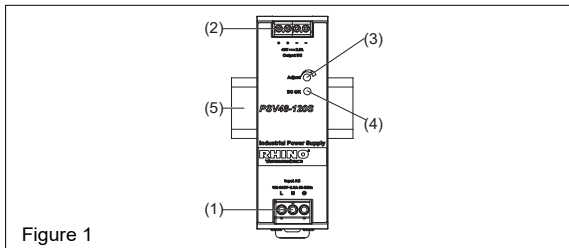
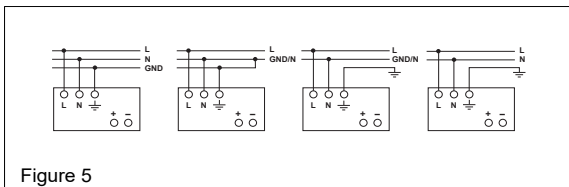

Figure 1
Figure 5
2. Device description (Fig. 1)
5.1. Input connection (Fig. 1, Fig. 5)
Use L, N and GND connections of input terminal connector (see Fig. 1 (1)) to establish the 100-240 VAC connection. Typical connection methods are shown in Figure 5.
5.2. Output connection (Fig. 1 (2))
Use the “+” and “-” screw connections to establish the 48 VDC connection. The output provides 48 VDC. The output voltage can be adjusted from 44 to 56 VDC on the potentiometer. The green LED DC OK displays correct function of the output (Fig. 1 (4)). The device has a short circuit and overload protection and an overvoltage protection limited to 56-67.2 VDC.